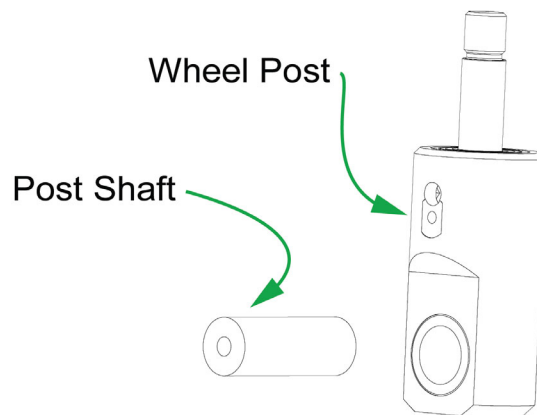

Figure 9 - Separating the Post Shaft from the Old Passive Wheel Post
3. Remove the shaft from inside the old post, as shown in **Figure 9**.